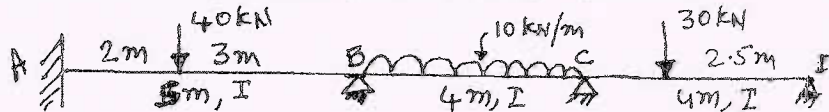

Fig.Q.3
- 3 Analyze the continuous beam shown in Fig.Q.3. Using moment distribution method. Draw BMD, SFD and EC if support A yields by 0.002 radians in clockwise direction, support B sinks by 30mm and support 'C' sink by 20mm. Take $EI = 480\text{kN}\cdot\text{m}^2$. (20 Marks)